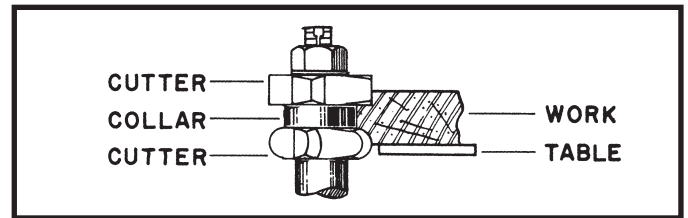

Fig. 40
4. The collar between cutters method (Fig. 40) utilizes the advantages of the first two methods and is frequently used when both edges of the workpiece are to be shaped.